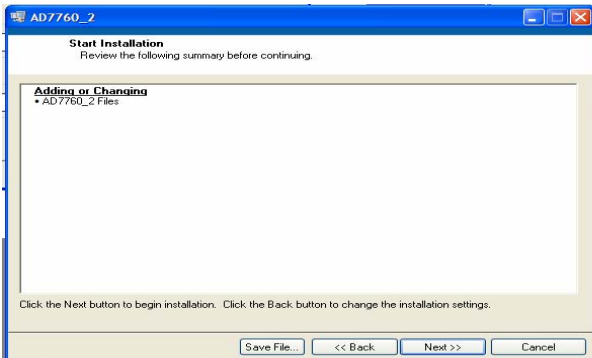

Figure 5. EVAL-AD776xEDZ Install actions
- To start the installation, click the “Next” button as shown in Figure 5, this window details the actions of the installation.